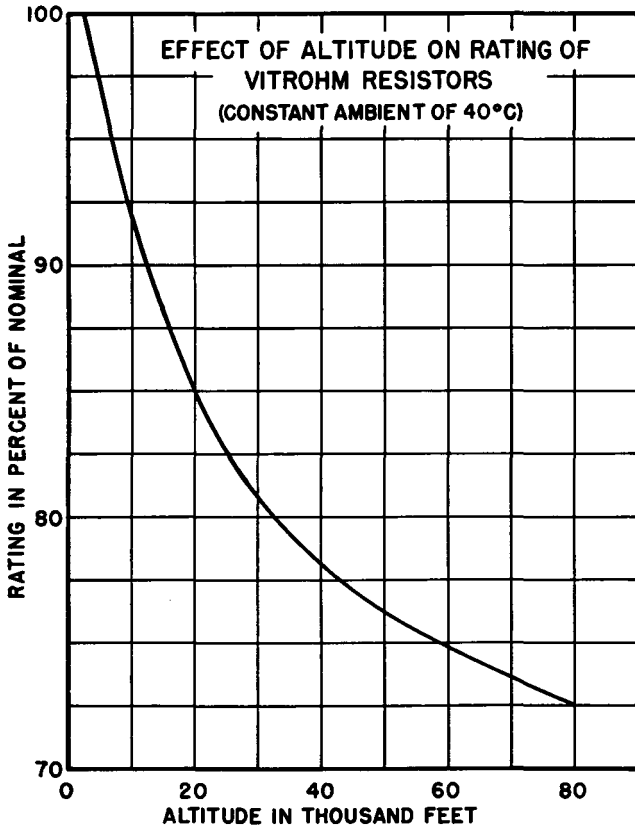

Figure 4-4. Effect of Altitude on the Rating of Vitrohm Resistors
3. *Derating Curve for Various Altitudes*—The curve in Figure 4-4 compares ratings of Vitrohm resistors at various altitudes from sea level up to 80,000 feet, under constant ambient temperature conditions (40°C). From sea level up to 2,500 feet full nominal watt rating is retained, but for higher altitudes the rating of the resistor must be reduced.
In selecting resistors for airborne equipment operating at high altitudes, the derating percentages given in Figure 4-4 are used to further derate in order to compensate for lower atmospheric pressure.